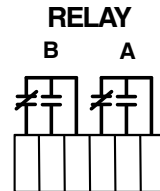

Figure 2.8: Relay Contacts Connector
Two sets of SPDT relay contacts provide contact closure for a number of clock conditions including: out of lock, alarm, fault, stabilized and loss of inlet power. Figure 2.8 illustrates three contacts. From left to right they are normally closed (NC), normally open (NO) and common (COM). “Normally” refers to the relay condition when the clock is powered off. The information below gives the contact states for two conditions: (1) faulted (including power off) and, (2) not faulted. For a list of faults, see Section 6.2.2.